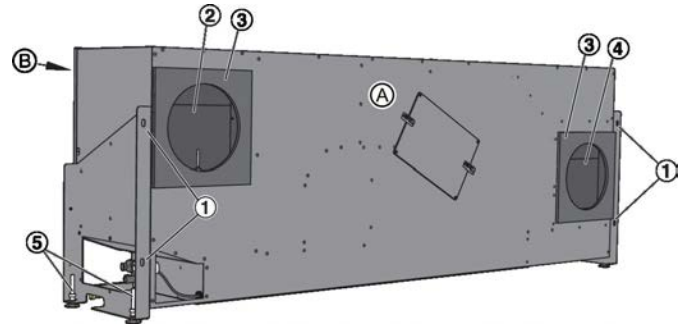

Fig. 3: Installation
1. ▶ Place the unit in such a way that the wall side (Fig. 3/A) faces the wall. The openings for the air (Fig. 3/2 and Fig. 3/4) must be aligned with the prepared openings in the external wall; adjust the feet if necessary.
2. ▶ Use suitable screws (∅ 6 mm) for the provided fixing holes (Fig. 3/1) to fix the unit to the external wall.
3. ▶ Adjust the feet (Fig. 3/5), then tighten the nuts.
4. ▶ Protect the ventilation unit with the optional outer casing or by an other outer casing provided by others. Screw-fix the two fixing brackets (Fig. 3/6) to the outer casing.